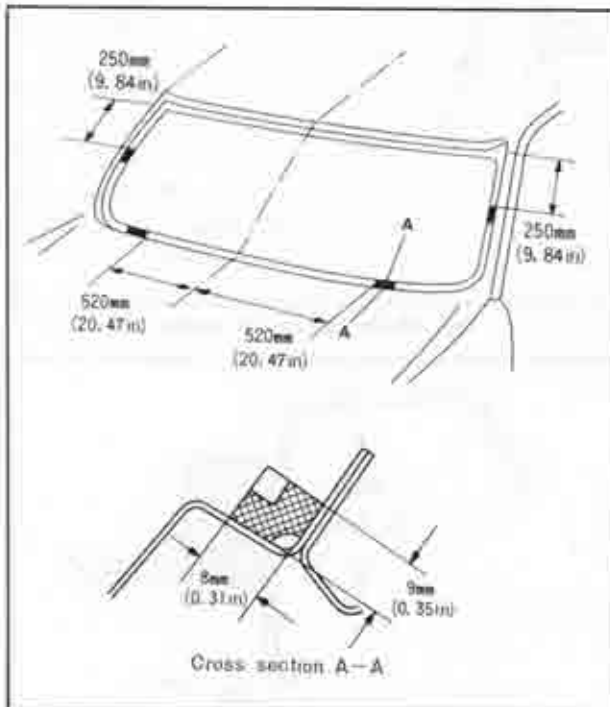

Fig. 14-31 Position spacers
4. Bond each spacer to the glass opening flange with bonding agent. Fig. 14-31 shows the directions and positions of each spacer. There are two kinds of spacer.
Although the spacer is bonded on both the right and the left hand sides of the windshield glass in Fig. 14-31, the spacer on only one side of the glass should be sufficient.